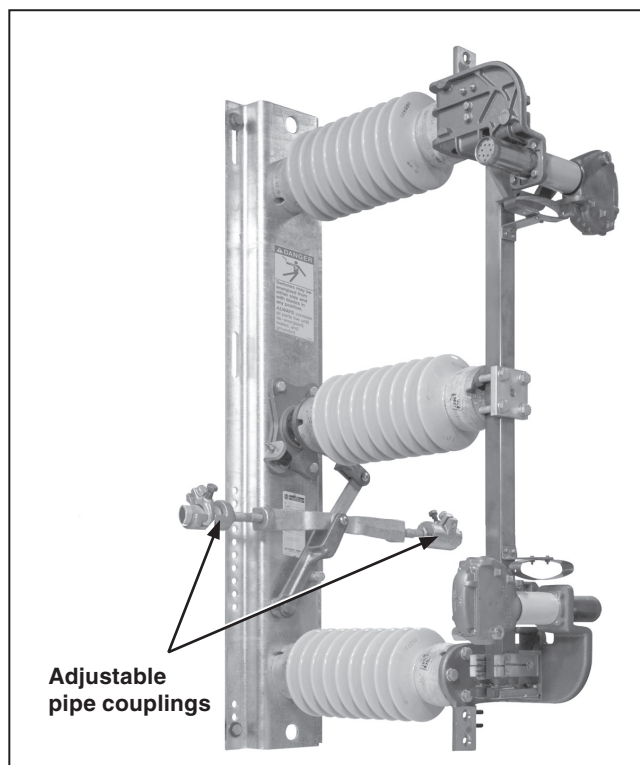

Figure 3. Attaching the pipe couplings to the switch toggle mechanism.
STEP 2. Attach pipe couplings to the toggle mechanism of each switch pole. Each toggle mechanism includes a 1/4-inch (6-mm) and a 3/8-inch (10-mm) spacer. Use one or both spacers, depending on the number and type of coupling(s). See Figure 3 as well as the instruction tag attached to the toggle mechanism.